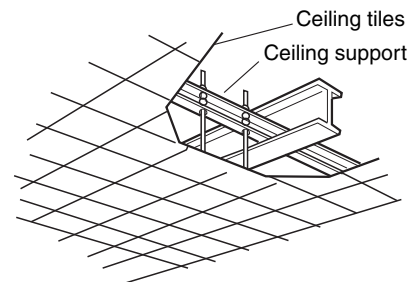

Fig. 3-55
- Use existing ceiling supports or construct a suitable support as shown in Fig. 3-55.